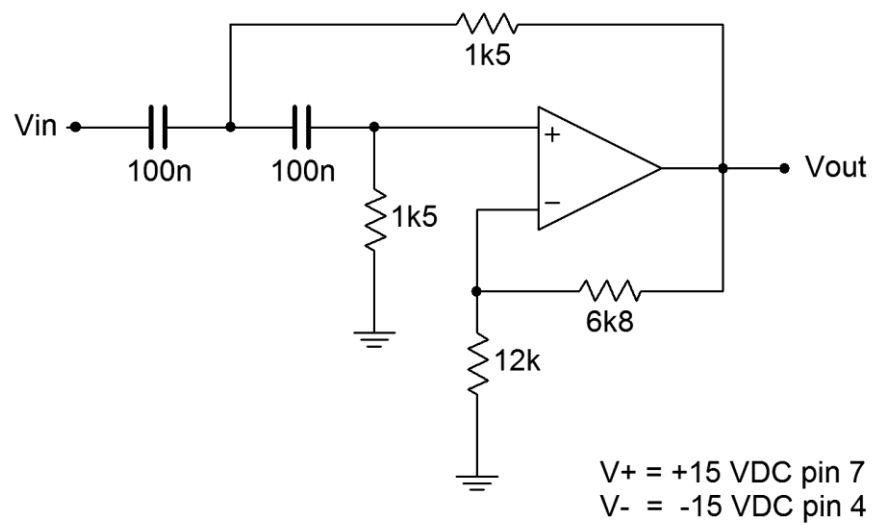

Figure 2
7. The circuit of Figure 2 is a second order high pass filter. Calculate and record the corner frequency (f_1) and mid-band voltage gain in Table 3.
8. Assemble the circuit of Figure 2.